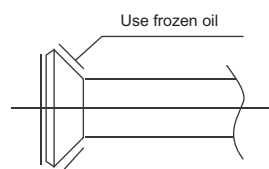

Fig. 8-1
- ① Bend the tubing in proper way. Don't harm them.
- ② Daub the surfaces of the flare pipe and the joint nuts with frozen oil, and wrench it for 3~4 rounds with hands before fasten the flare nuts. (Refer to Fig. 8-1)
- ③ Fasten the nuts at the repair-points. Be sure to use two wrenches simultaneously when you connect or disconnect the pipes.